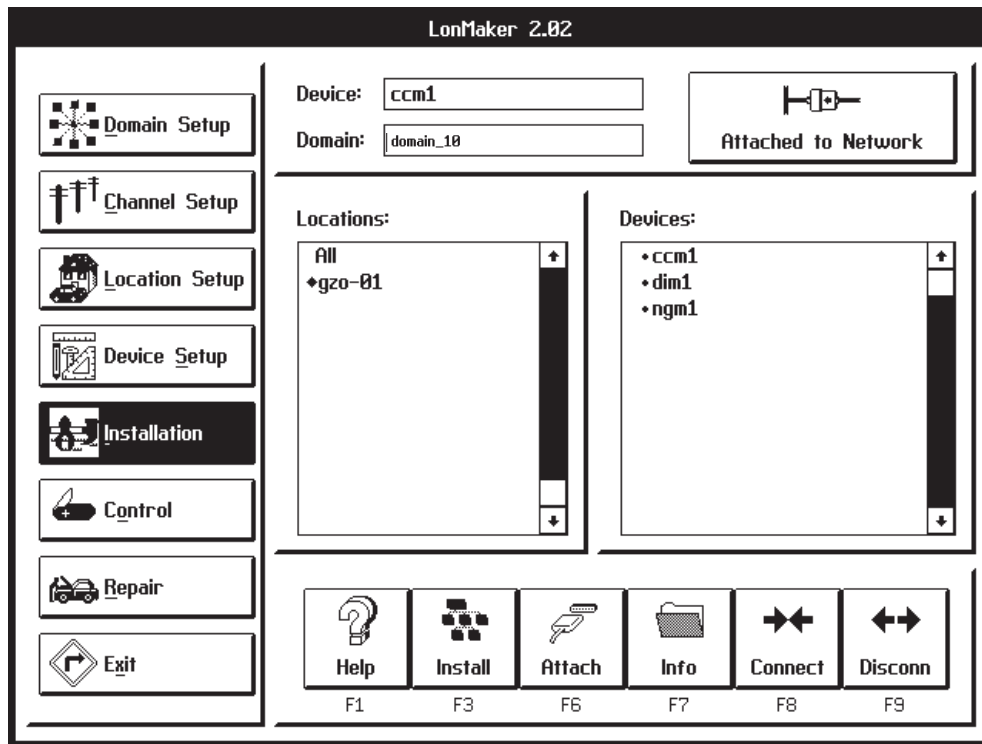

FIGURE 3-10. INSTALLATION SCREEN
1. Click on the Installation task button. (Figure 3-10).